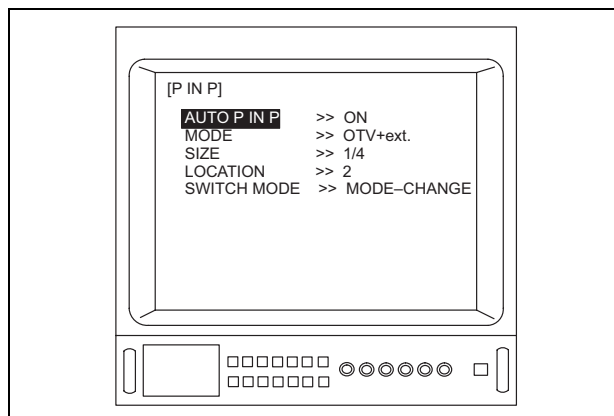

Figure 5.115
8. Depress the menu switches “◀” or “▶”, or the “↑/↓/←/→” key on the keyboard to select “ON” (see Figure 5.115).
- When controlling the picture in picture on and off, or changing the display mode using the remote control switch or the “B.O.D.” key on the keyboard, set “AUTO P IN P” to “OFF” in Figure 5.115.